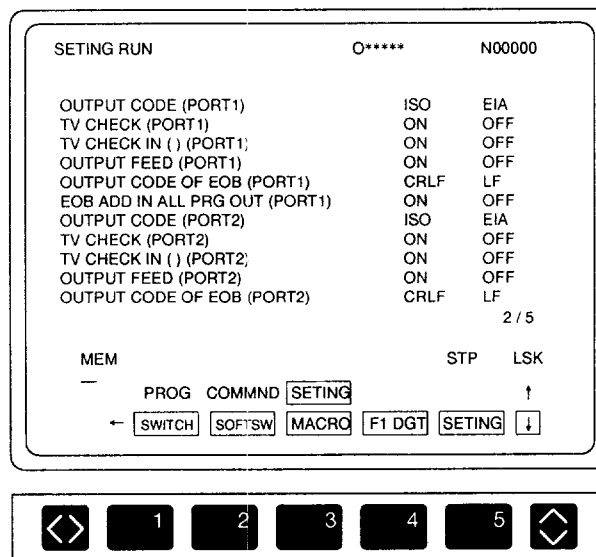

Fig. 6.7 Setting Screen
- ① When the [SETTING] (f5) function soft-key is pressed, the setting screen as shown in Fig. 6.7 is displayed.
- ② Either press the page keys or key in the page number. Display the page which includes the objective setting item by pressing the cursor up/down keys.
- ③ Move the cursor to the required setting item by using the cursor up/down key.
- ④ For the items for which setting should be made in other than numerical values, the contents of the setting changes each time the [WR] key is pressed. Selection is made from “ON and OFF”, “ISO and EIA”, “MM and INCH”, etc. For the items for which setting should be made in numerical values, press the [WR] key after keying in the required value.